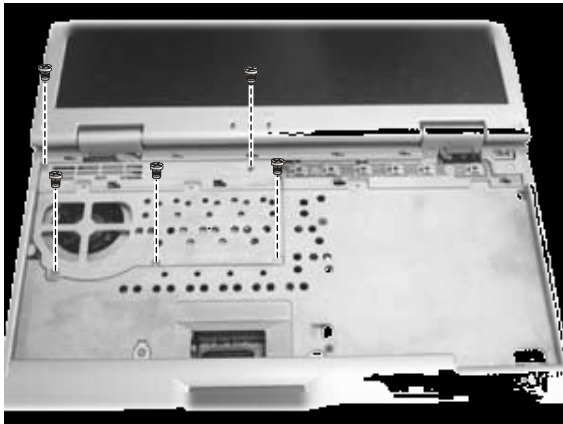

Figure 2-6 Remove the cover
2. Remove five screws locking the heatsink cover. (Figure 2-6)